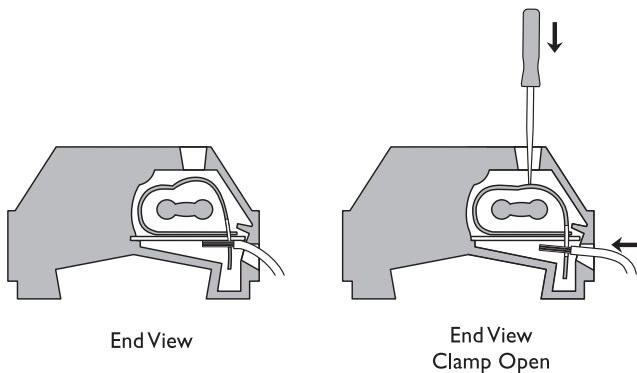

Figure 11—Connecting/disconnecting J3 terminal block wires
6. Note the polarity of the two LED wires before disconnecting the wires from the J3 terminal block on the alarm backup board. Disconnect the two wires. To release wires from terminal block, insert a small screwdriver in slot nearest wire and push screwdriver down (see fig. 11).